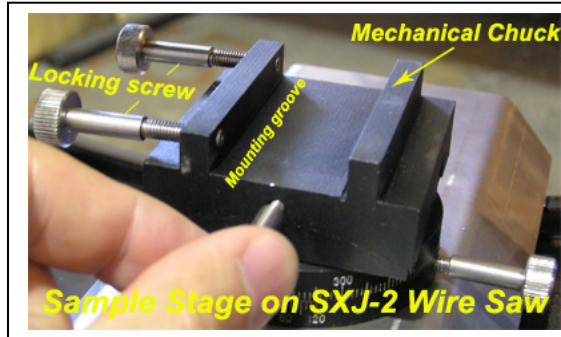

Fig. 5
- Put the cross vise to mechanical chuck on the SXJ-2 diamond wire saw and tighten the screw (Fig. 5)